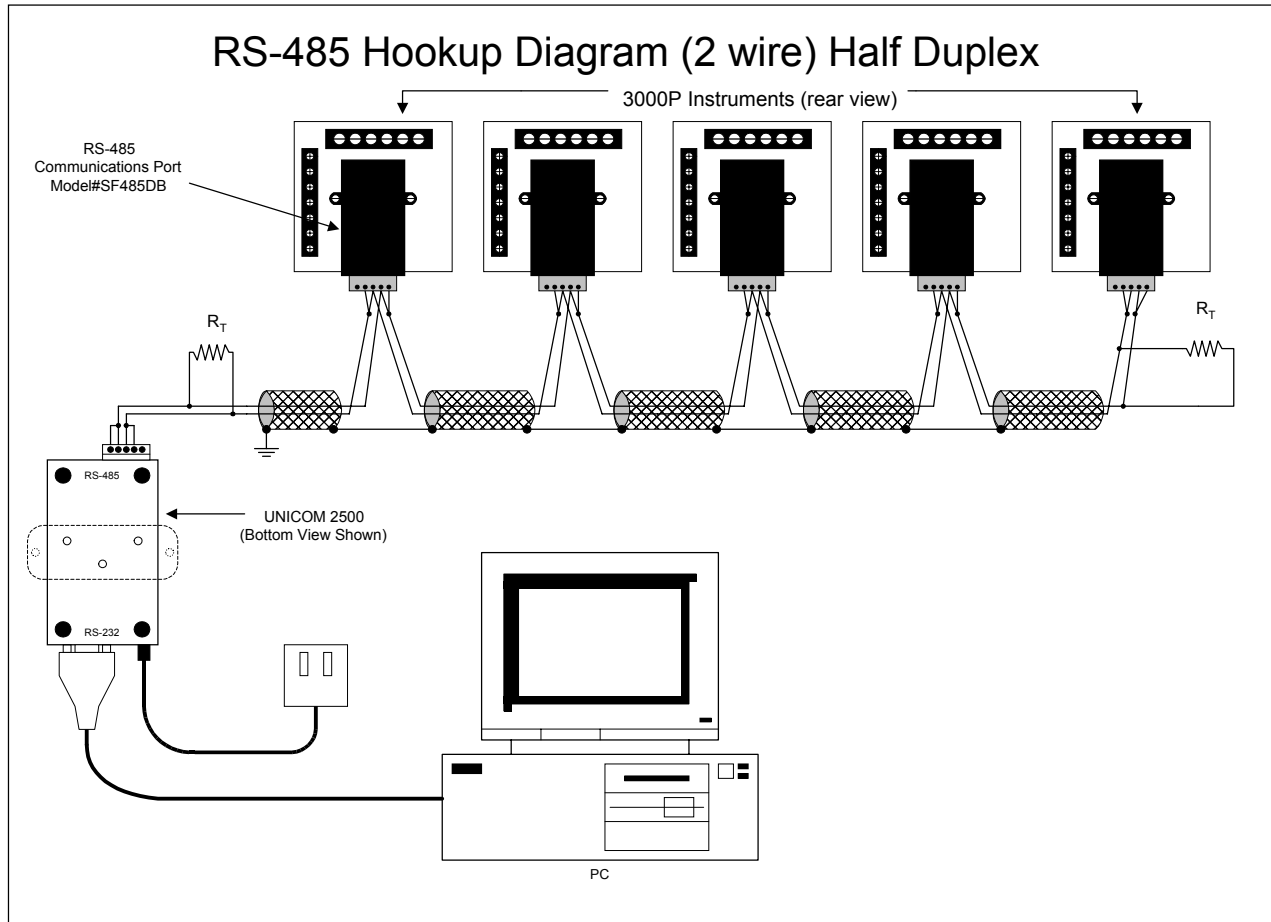

Figure 3.2 2-Wire RS-485 Communication Connection Installation Half Duplex
- When only 2 wires are used (on the RS-485), the link can include up to 30 instruments, (Figure 3.2).